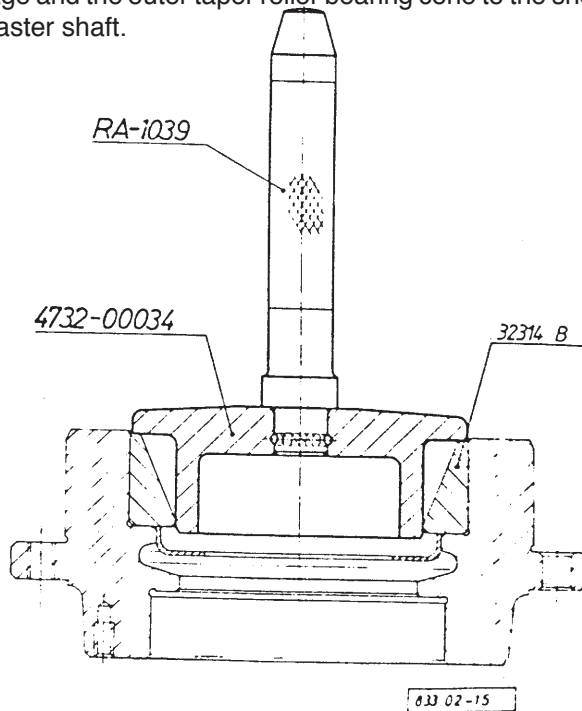

Fig. 5.: DRIVING IN THE CUP OF INNER TAPER ROLLER BEARING
Position the inner taper roller bearing cup (12) into the bearing cage, then by the tools shown drive in to bottom out (Fig. 5.).